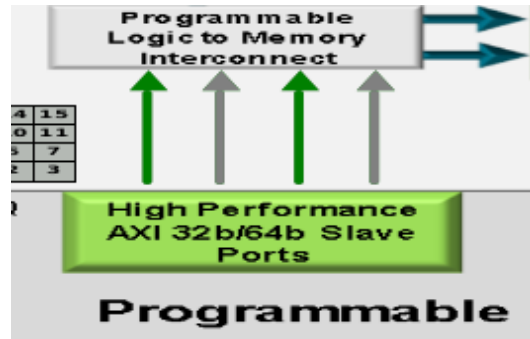

Figure 4: High Performance AXI 32b/64b Slave port block.
5.12. From the XPS System Assembly view, double click on the green **High Performance AXI 32b/64b Slave Ports** block (Figure 4). This will again open the Configuration wizard.